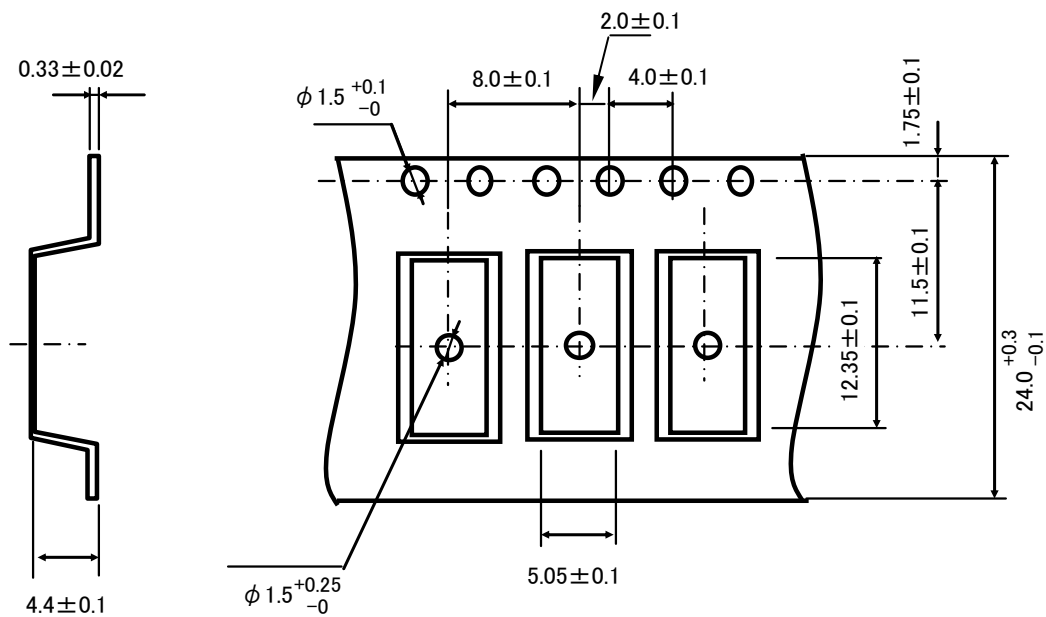

Figure 3 Tape Forms
- (1) Tape material: Plastic
(2) Dimensions: The tape dimensions are as shown in Figure 3.